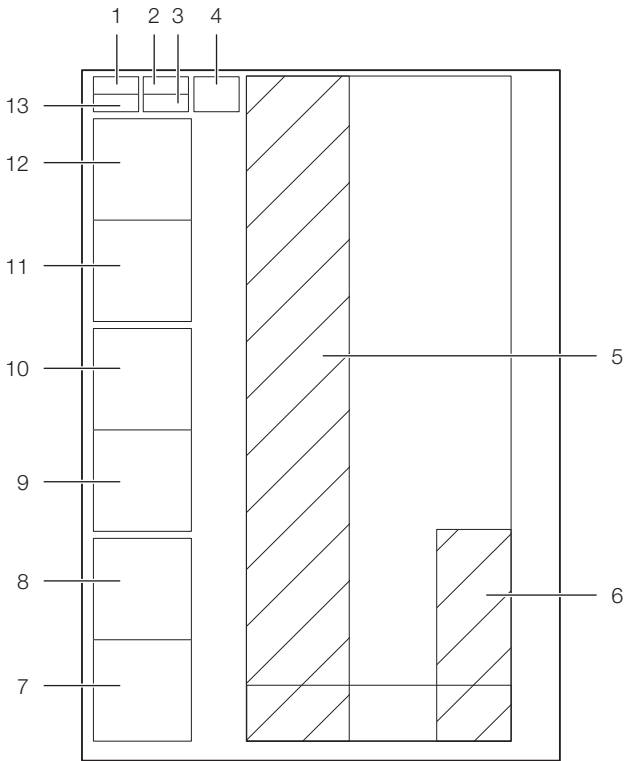

Fig. 10: Schematic design of a Liquid Cooling Package – right-hand side view
- 5 Control unit CMC III PU (see fig. 10, item 13)
- 6 Fuse box with master switch (see fig. 10, item 1)